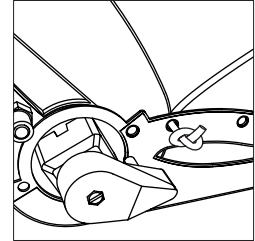

Figure 6: Cord attached to insertion point
1. Tie a knot near the end of a cord and thread the other end through one of the insertion point holes. Pull the cord through until the knot stops against the hole (Figure 6).